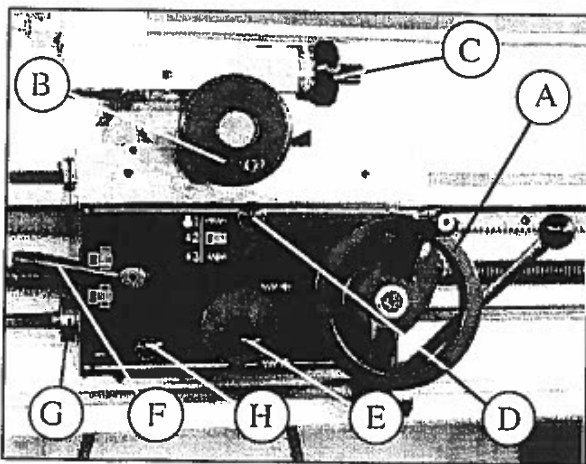

Fig. 13
Apron and slide controls (Fig. 13) in addition to the manual operation of the saddle by rotating apron handwheel (A), the cross-slide handwheel (B) and the topslide by handwheel (C) power feed is available to the saddle and cross-slide.
out has been pre-set during construction and should not be altered. It is permissible to reduce force if knocking off against a stop. To reset back to original setting engage feed lever (E) Fig. 13. With a screwdriver push in the adjuster rod against the light spring load and slowly turn clockwise until the dog is felt to engage the associate nut. Continue to turn until the required setting is reached.